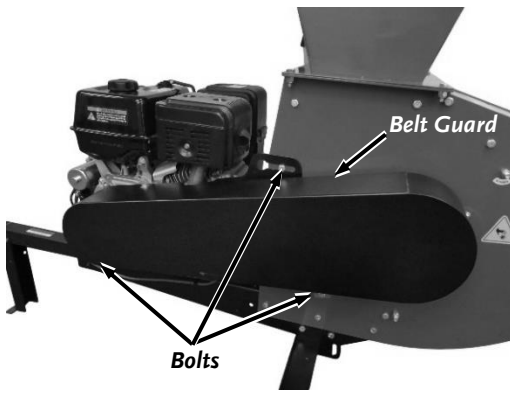

Figure 25
1. Remove the three Bolts supporting the Belt Guard using a 3/8" Wrench (**Figure 25**). Remove the Belt Guard and set aside
11. Reinstall the Belt Guard (**Figure 25**).